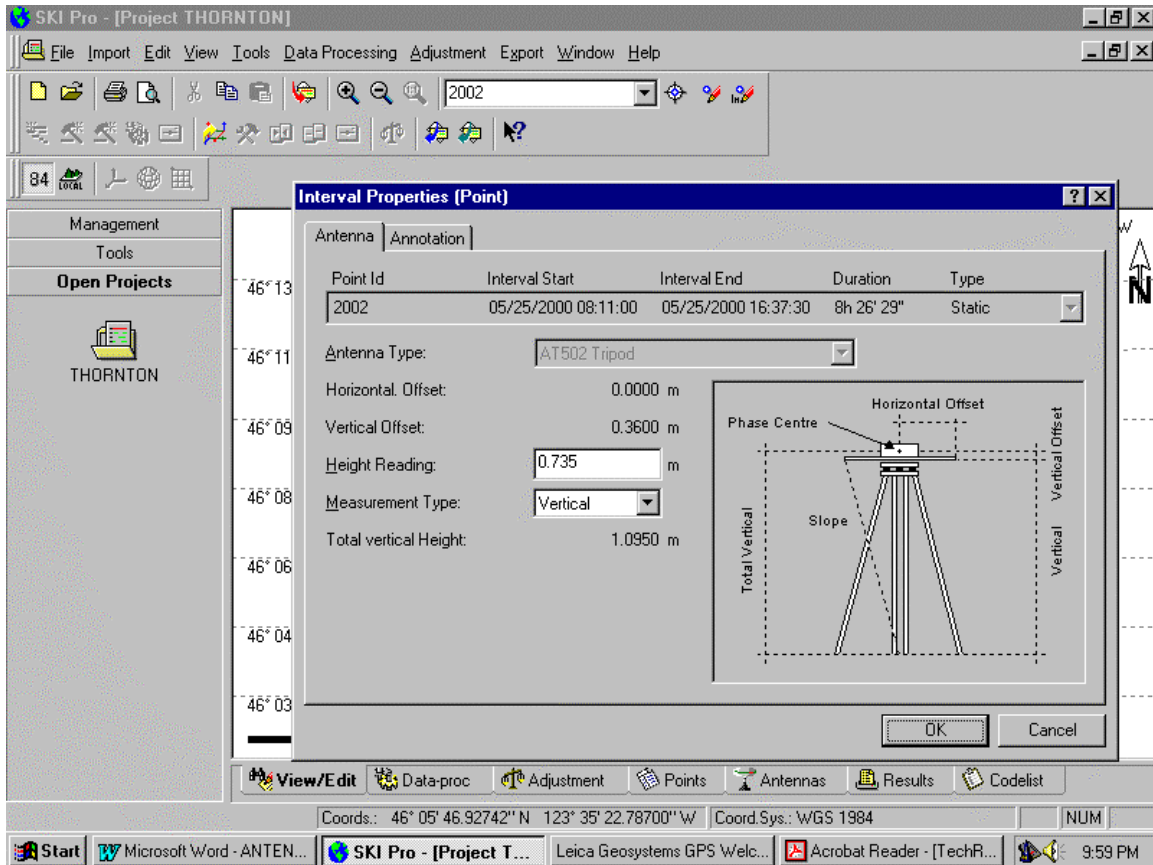

Figure 4: Properties of Antenna Height Site Occupation Interval in View/Edit Tab
When the raw data is inserted in a SKI-Pro project, the total antenna height associated to a given occupation corresponds to the sum of the Vertical Reading (VR) and the Vertical Offset (VO) values. Only the Height Reading (no offset) can be changed in the Antenna Interval Properties panel in the View/Edit Tab. Figure 4 shows the antenna height properties for a given site occupation interval in the View/Edit Tab.